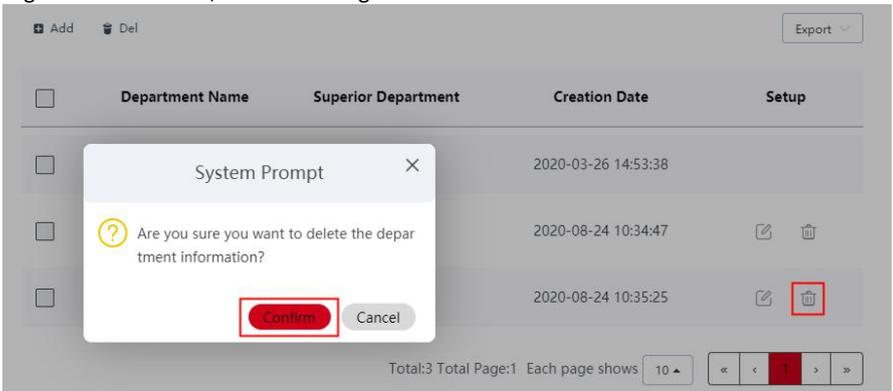

Figure 5-36
Step 2: Click the "🗑️→Confirm" of the organization you want to delete to complete the organization deletion, as shown in Figure 5-36 below.